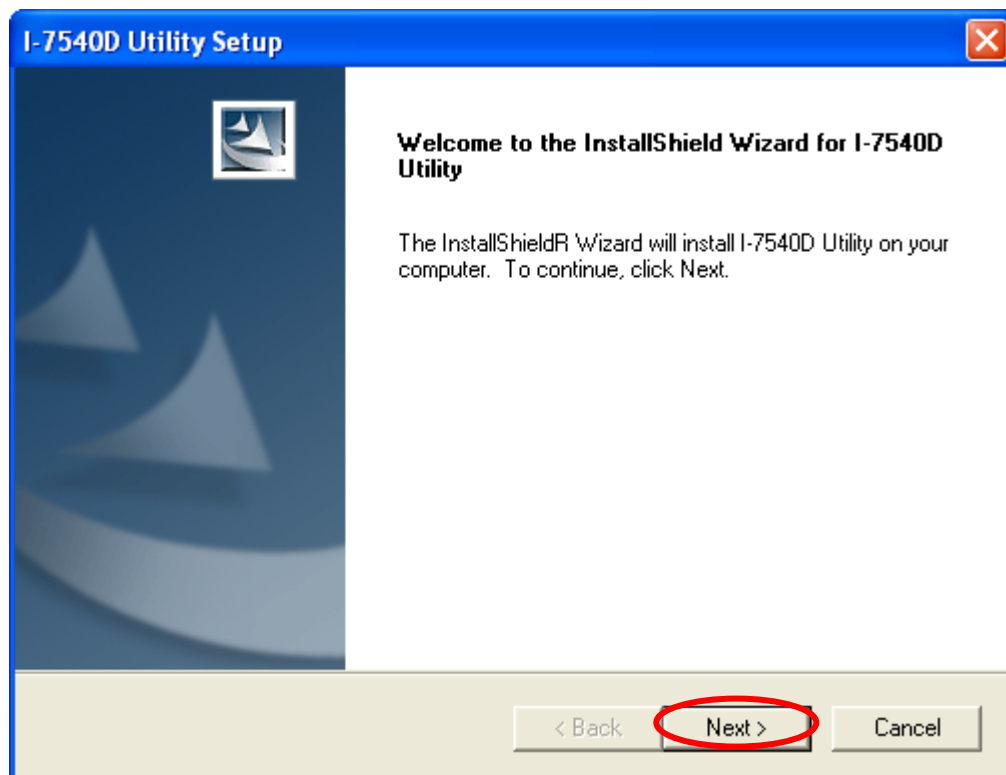

Figure 3-2: Welcome dialog
**Step 3:** A “Welcome” window pops up to prompt user to begin the installation. See figure 3-2.